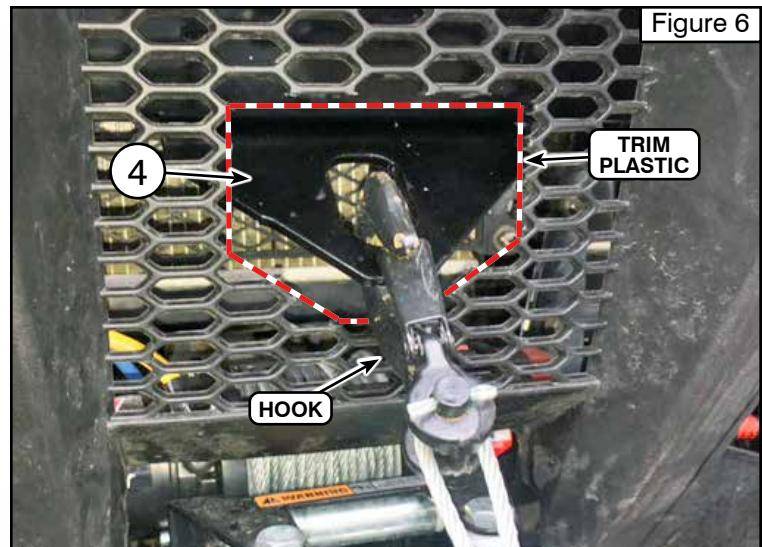

Figure 6
8. NOTE: When reinstalling the plastic fascia, a small opening must be cut in the plastic grille to provide clearance for the Hook Bracket (4). Refer to **Figure 6**. The fascia may be left off during the plow season and reinstalled once the plow is removed; however, the Hook Bracket (4) must be removed in this case.
9. Route the winch cable through the pulley and attach the hook to the Hook Bracket (4). See **Figure 6**.